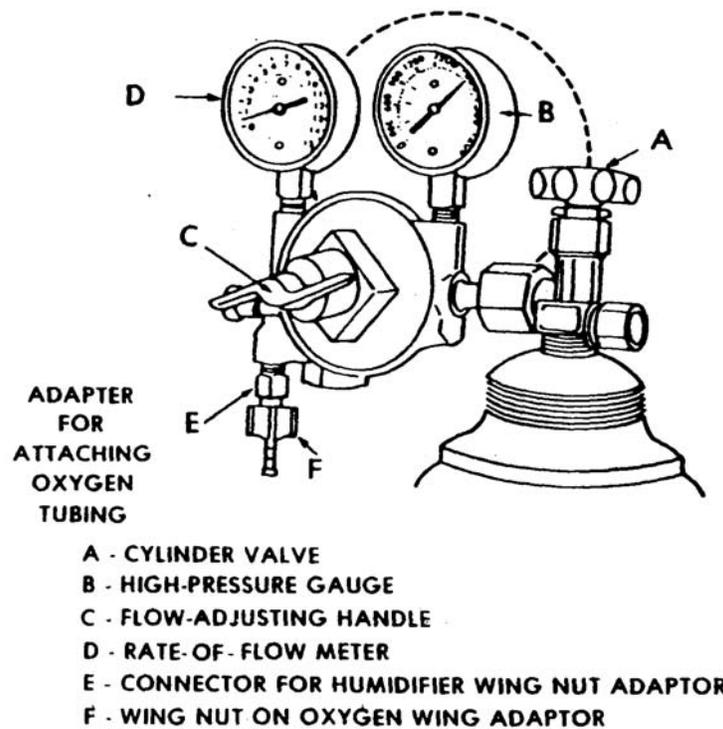
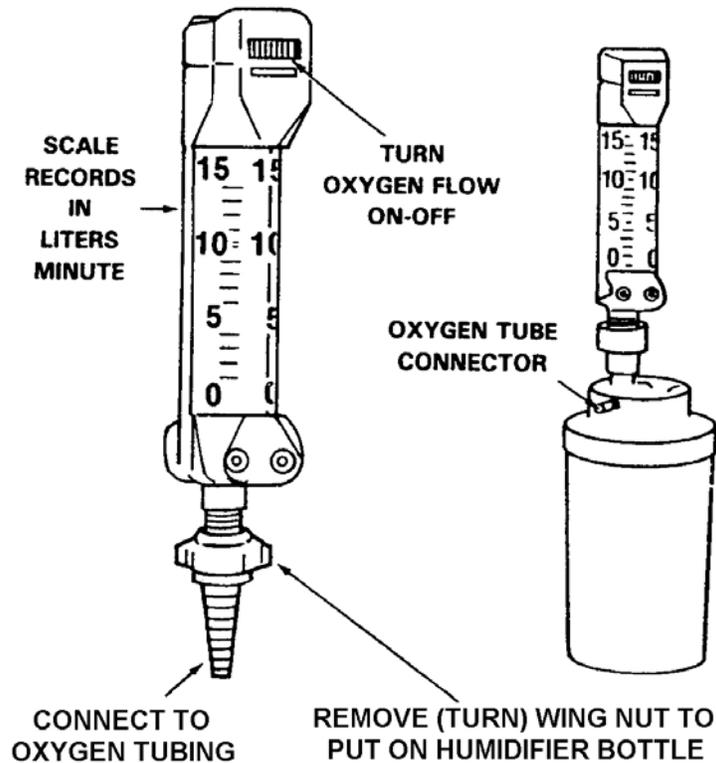

Figure 3-6. Cylinder regulator.
Figure 3-12. Attaching humidifier to flow meter.
(2) Oxygen cylinder truck, if applicable. A transport designed for gas cylinders must be used when moving a large ("M") oxygen cylinder.
(3) Cylinder regulator. The cylinder regulator (figure 3-6) is used to control the flow of oxygen from the cylinder. The oxygen in the cylinder is under great pressure. By controlling the rate at which oxygen leaves the cylinder, the oxygen pressure is lowered to a pressure that is safe for the patient. The regulator ensures a steady, even flow of oxygen and provides a means for adjusting the rate of flow. The cylinder regulator has two gauges.
(b) The second gauge, called a flow meter (or flow indicator gauge) shows the amount of oxygen being delivered and is calibrated in liters per minute. There are two main types of flow meters. One is the Bourdon gauge (round type) shown in figure 3-6. The other is the pressure compensated flow meter that works on gravity and must be kept upright. A pressure compensated flow meter is shown in figure 3-12.
(1) Because oxygen is very drying to the mucous membranes, it is bubbled through water to add humidity that makes it less irritating to tissues. Oxygen may be administered without humidification for short periods such as in emergency situations or during transportation.
(2) Bacterial growth on oxygen humidifiers may occur. Therefore, humidifiers and tubing should be changed at least every 24 hours or in accordance with local SOP.
i. **Attach the Humidifier to the Flow Meter.** Remove the oxygen tube connector from the flow meter by turning the wing nut. Attach the wing nut on the humidifier to the flow meter and secure by tightening the wing nut (figure 3-12).